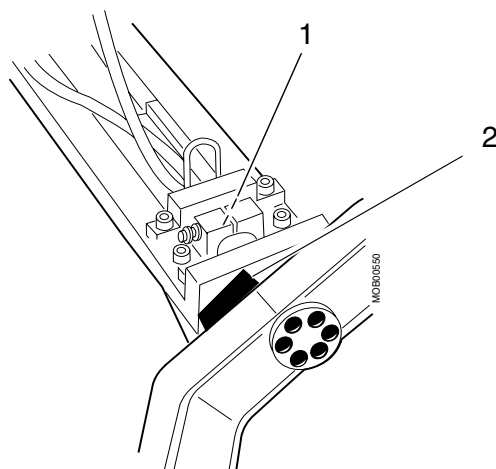

Fig. 16 Rotation limit
21. Loosen the rotation limit for the single tank. The rotation limit is loosened by unscrewing the one hexagon socket head cap screw with a 5 mm Allen key (pos. 1 / Fig. 16). To make remounting easier, turn the single tank to one end position. Then mark the angle with a piece of adhesive tape (pos. 2 / Fig. 16).